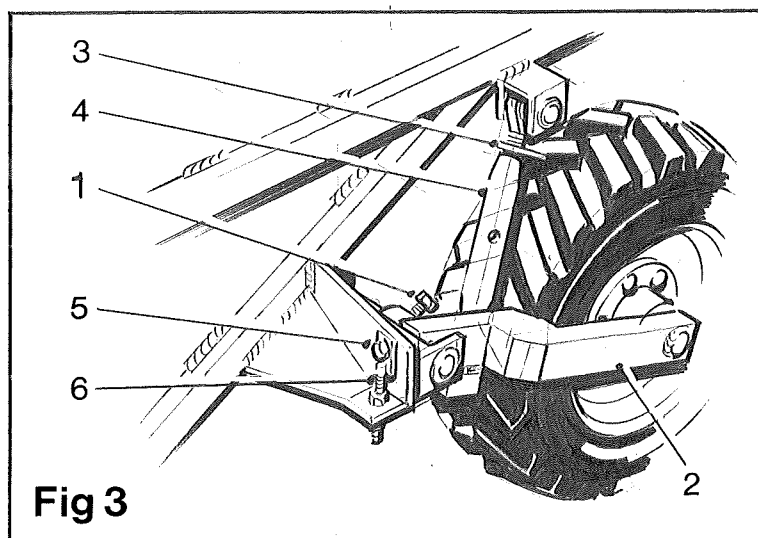

Fig 3
The wheels are adjustable to cover a range of 60" to 72" wheelings. To adjust the wheel setting lift the machine, slacken the set screw (item 1, fig 3) and slide the the wheel leg (item 2, fig 3) to its new position. Finally re-tighten the set screw (item 1, fig 3). Ensure both wheels are adjusted equally about the centre line of the machine.
The wheel legs (item 2, fig 3) are vertically adjustable to the give conveyor clearance over adjacent untreated beds. To adjust the clearance, lift the machine, slacken the locking tab (item 3, fig 3) and rotate the turnbuckle (item 4, fig 3) until the desired height is reached. Finally re-tighten the locking tabs (item 3, fig 3). Ensure both wheels are adjusted equally.
In some instances it may be necessary to alter the angle of the wheels to avoid contact between the tyres and the main frame. To alter the angle of the wheels, slacken the securing bolt (item 5, fig 3) and with the use of the adjuster (item 6, fig 3) alter the angle of the wheel. Once the desired angle has been reached, re-tighten the adjuster locking nuts and securing bolt.